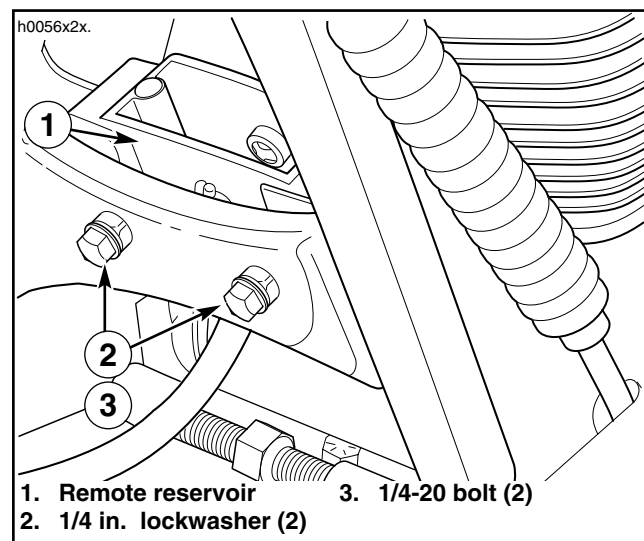

Figure 7. Remote Reservoir and Bracket Installed
2. See Figure 7. Install remote reservoir to engine side of frame crossmember as shown.